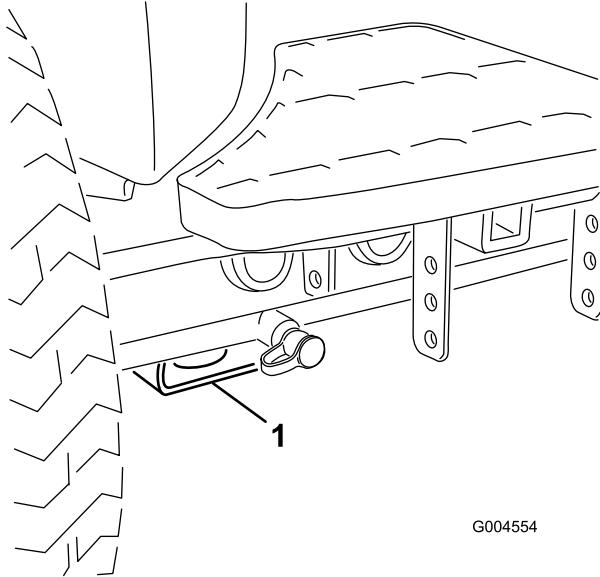

Figure 33
- Front—rectangular pad, under the axle tube, inside each front tire (Figure 33)